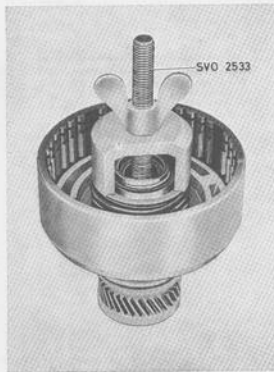

Fig. 4-101. Dismantling rear clutch
31. Place special tool 2533 on the clutch as shown in Fig. 4-101. Tighten the wing nut until the snap ring releases. Remove the snap ring and screw back the wing nut. Remove the special tool, then the retainer and spring. Withdraw the piston. If necessary blow out the piston with compressed air.
12. Fit the spring, spring seat and snap spring using special tool 2533, which is used when disassembling, see Fig. 4-101.